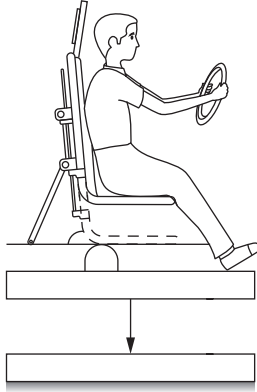

Figure P9.36 Energy-absorbing aviation seat.
- 9-36.** A biomedical engineer is evaluating an energy-absorbing aviation seat on a vertical deceleration tower, as shown in Fig. P9.36. The acceleration profile of the drop cage is given by